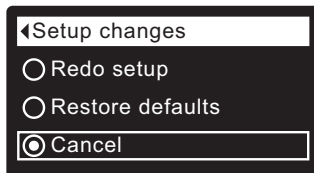

FIG. 38
1. From any of the rolling status screens, press the SELECT (O) button to display the **Main menu**.
3. Press the SELECT (O) button to display the Advanced settings menu.
5. Press the SELECT (O) button to display the Troubleshooting menu.
7. Press the SELECT (O) button to display the Setup changes menu (See Figure 38).
8. Press the RIGHT (▶) button. The flashing padlock icon will disappear, as shown in Figure 38.
9. Press the SELECT (O) button.